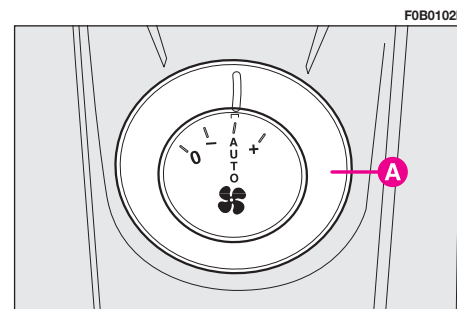

fig. 90
• **rear seat air capacity adjustment (REAR) fig. 89 (for versions without additional fans):** this is possible by pressing button **D**, thus the second row passengers can adjust air capacity with the additional fan knobs **A**-fig. 90. The rear fan symbol will be viewed on the display **C**.